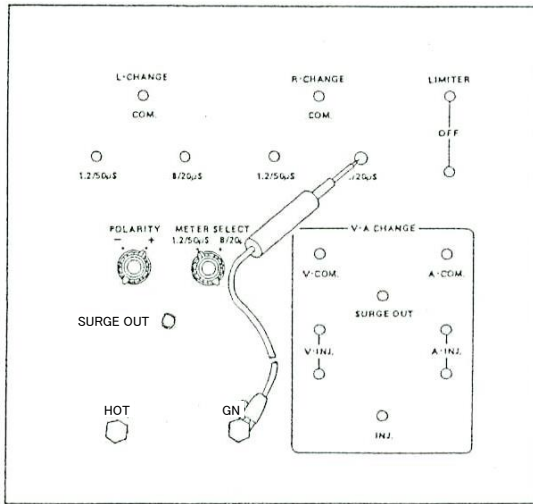

Fig. 3
2. The high voltage charge may be retained. To avoid any danger of shock, before touching the connection bars to change waveform, be sure to discharge the remaining charges at each terminal of the Output waveform selector ⑭ by using the discharge probe (marked 'K' in the accessories list) as shown in Fig. 3. Connect the connector end of the probe to the SG terminal ⑮ and touch the probe tip to each terminal for short-circuiting for approx 5 seconds.
6. When you go away from the simulator, never fail to turn off the high voltage circuit and reset the SURGE ADJ knob ⑤ to the OV position.
7. While the high voltage circuit is ON status, do not open any acrylic door. When you switch POLARITY and METER select or change the waveform setup, be sure to lower the indicated value to 0V(0A) by SURGE ADJ knob ⑤ and press HIGH VOLTAGE OFF switch ④ and then start setting.
8. Do not connect AC line directly to HOT terminal ⑪. Otherwise, the internal component of this simulator may be damaged.
1. For safety, discharge the residual charges remaining on the Output waveform selector terminals ⑭ with the attached Discharge probe. Connect the clip of the Discharge probe to the GND terminal ⑮ (Refer to Fig. 3) and short-circuit for 5 seconds between each terminal and GND terminal.
1. See Fig. 3 for safety, discharge the remaining charges with the attached Discharge probe.